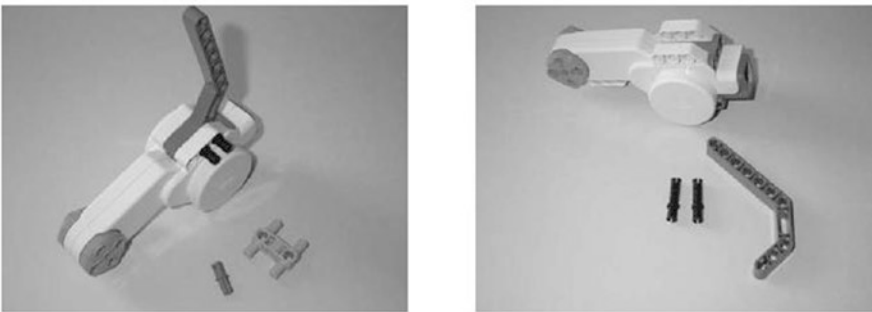

Figure D-2. Look at the image on the left to determine the placement of the part on the right
- *Without moving the bot, remove a part and set it down close to the bot:* Take the photograph (from the same angle as the first) so that it shows the bot and the removed part, and make sure that where the part was removed is visible in the new photograph. Look at Figure D-2. On the left side is the final bot, and on the right you can see that a part has been removed. You should be able to determine from the photo on the left where the parts on the right will be placed. Good building instructions always show you a part in one step that you'll use in the next step (which is why the photo on the left has two new parts next to it).